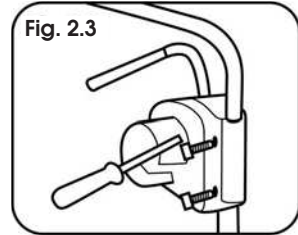

Fig. 2.3
- ✿ Join both parts together using the included screws and tighten appropriately. Figure 2.3